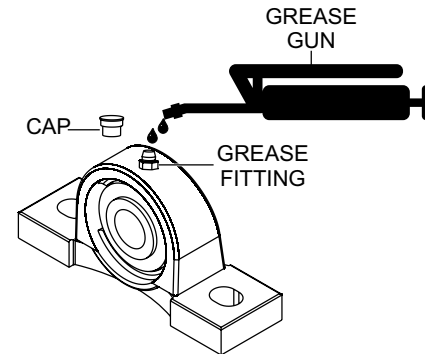

**Figure 33. Cleaning The Spark Arrester**
4. Carefully remove carbon deposits from the spark arrester screen (Figure 33) with a wire brush.